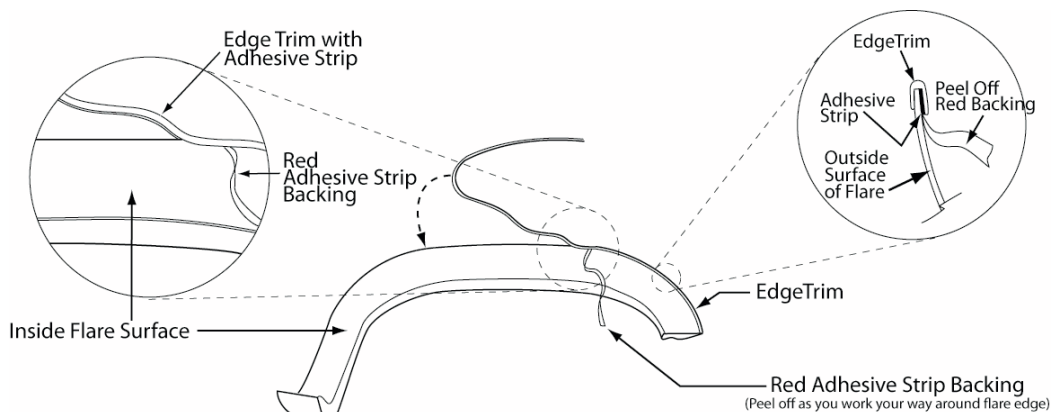

Figure 1
2. Press edge trim into place along edge of flare in one-foot increments, pulling red backing free as you continue to work your way around the flare. **(Figure 1)**